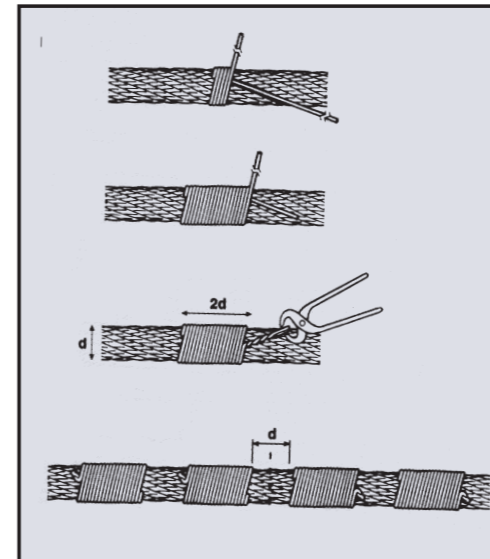

Fig 10
- 3.12 Take particular care and note the manufacturer's instructions when the rope is required to be cut. Apply secure servings on both sides of the cut mark. (See Fig. 10 for typical method of applying a serving to a multi-layer rope.)
One serving either side of the cut is normally sufficient for preformed ropes. For non-preformed ropes, multi-layer (i.e. rotation-resistant and low rotation ropes) and parallel closed ropes (i.e. DSC ropes) a minimum of two servings each side of the cut will be necessary (See Fig. 10).